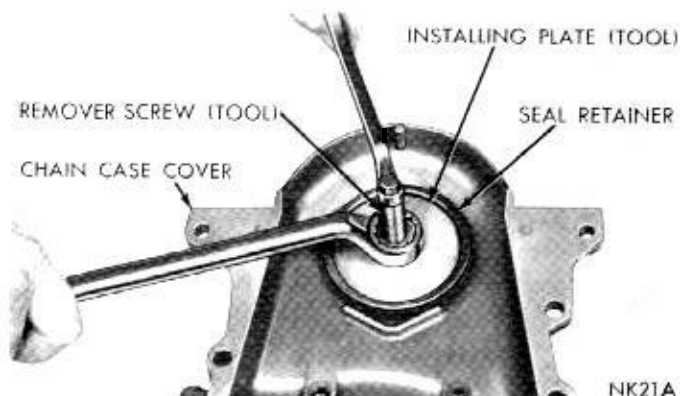

Fig. 25—Installing New Seal
(8) Install flat washer and nut on remover screw, hold screw and tighten the nut (Fig. 25).